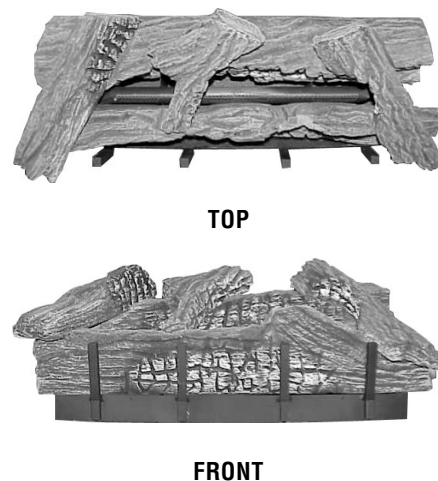

Figure 10
Figure 10 details the log set showing a front view and top view of the single piece assembly.
Step 2. Proper twig placement is critical to prevent sooting. Refer to *Figure 10* and place the twigs as shown. Twigs should be placed in the gaps between the flame peaks and should be positioned so that at no time they impinge the flames.